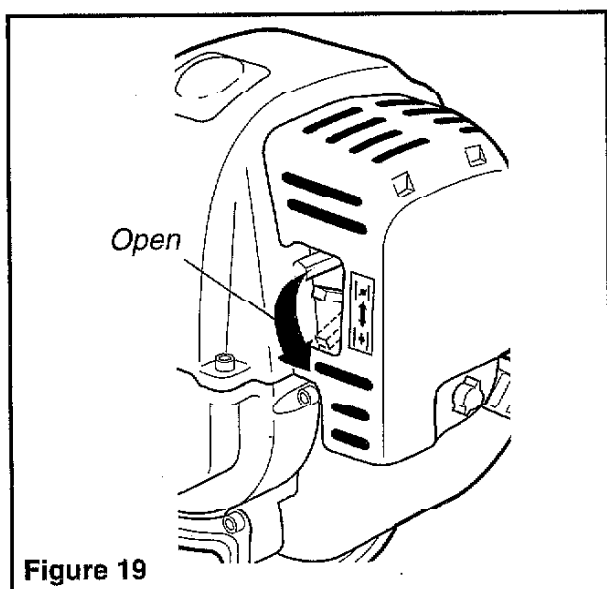

Figure 19
5. When the engine starts, slowly move the choke lever to the "OPEN" position. See Figure 19. (If the engine stops after the initial start, close the choke and restart.)